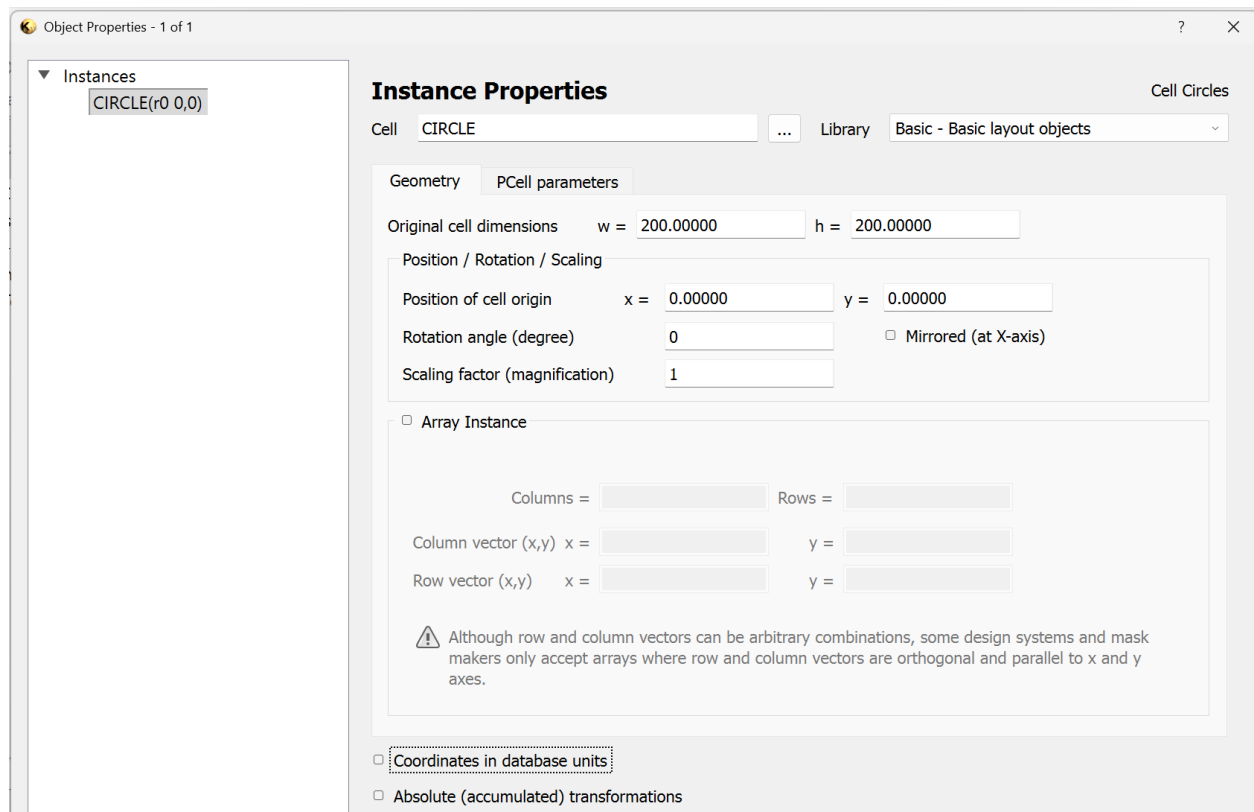

Figure 4: Geometry within the Instance Properties of the implemented circles.
7. Switch to the “Geometry” tab to adjust the circle dimensions and the position of the cell origin (see Figure 4).